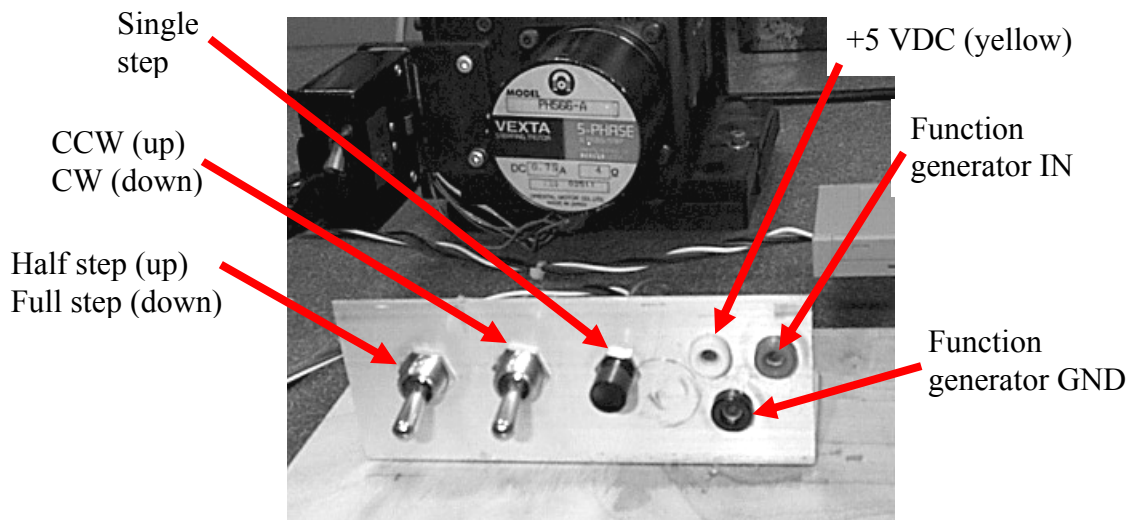

Figure L9-7. Stepper motor interface
1. Connect the function generator (TTL output) to the interface connector shown in Figure L9-7. Operate in full step mode in the clockwise (CW) direction.